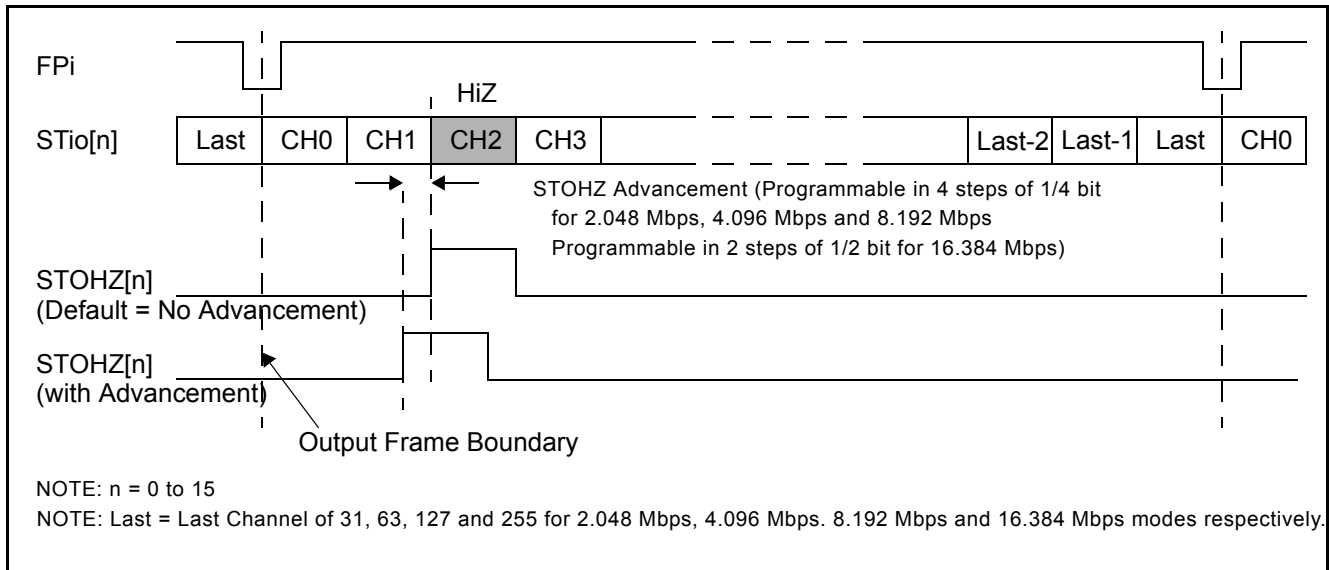

Figure 18 - Channel Switching External High Impedance Control Timing
There are 16 external high impedance control signals, STOHz0 - 15, that are used to control the external drivers for per-channel high impedance operations. Only the first sixteen ST-BUS/GCI-Bus (STio0 - 15) outputs are provided with corresponding STOHz signals. The STOHz outputs deliver the appropriate number of control timeslot channels based on the output stream data rate. Each control timeslot lasts for one channel time. When the ODE pin is high and the OSB (bit 2) of the Control Register (CR) is also high, STOHz0 - 15 are enabled. When the ODE pin, OSB (bit 2) of the Control Register (CR) or the  $\overline{\text{RESET}}$  pin is low, STOHz0 - 15 are driven high, together with all the ST-BUS/GCI-Bus outputs being tristated. Under normal operation, the corresponding STOHz outputs of any unused ST-BUS/GCI-Bus channel (high impedance) are driven high. Refer to Figure 18 on page 34.